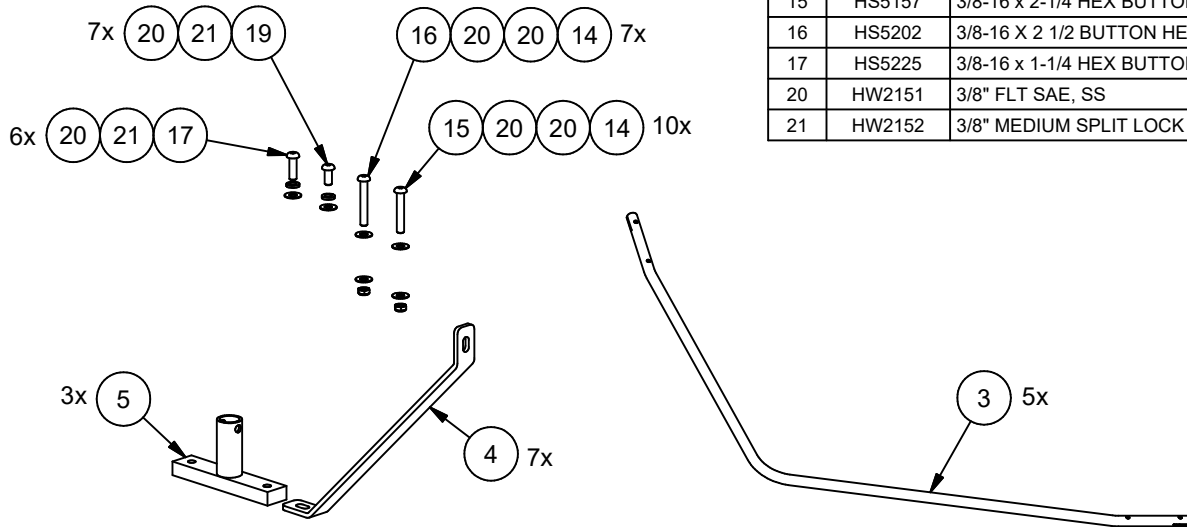

FIGURE D-1
- Gather all backstays, center hubs, braces, bolts, washers, and nuts as shown in Figure D-1.